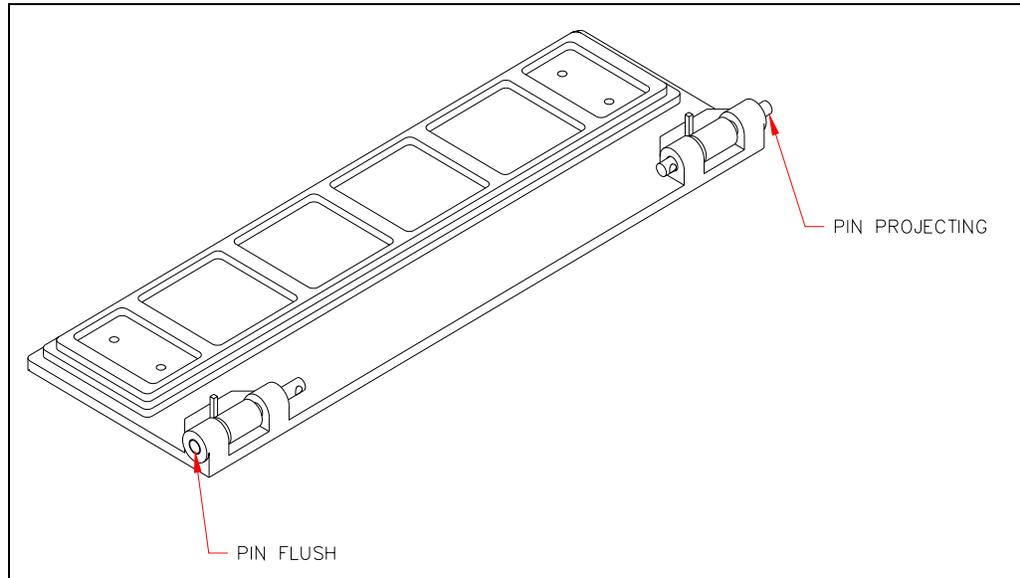

Figure 9-5 Removing Door Pins
- 2 Remove the springs and pins from the door by pushing the pins out of the door with a punch (Figure 9-5).